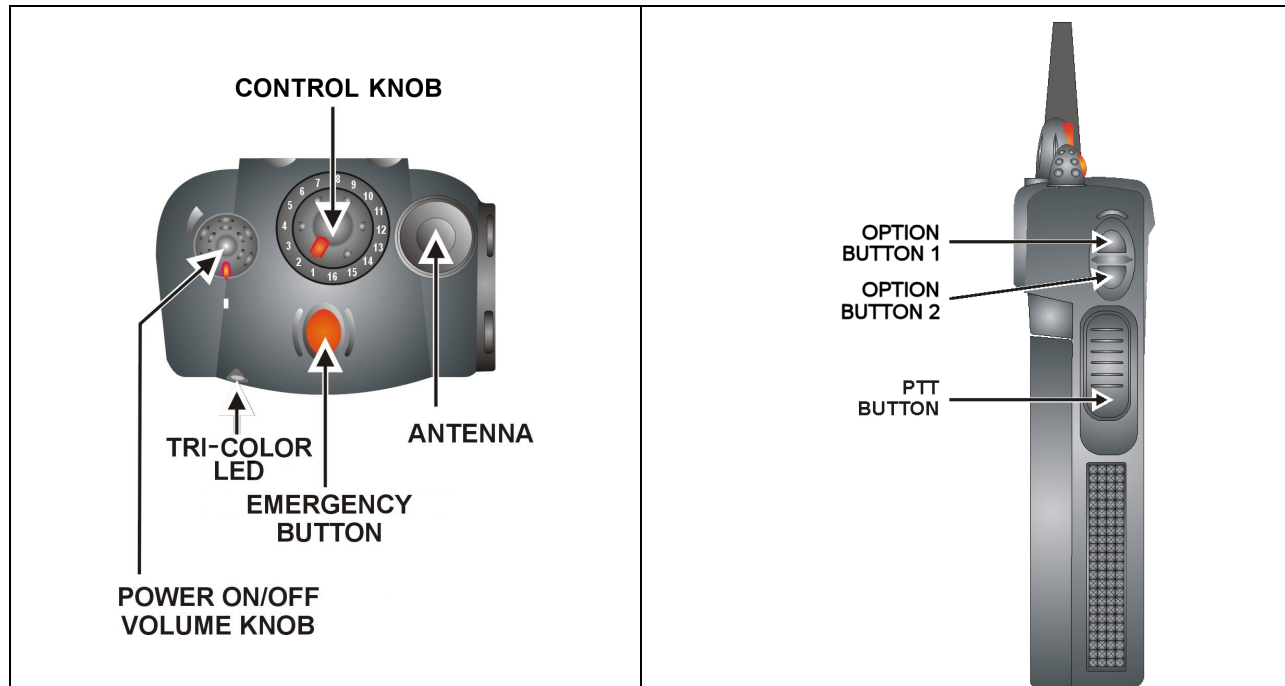

Figure 11-1: Top and Side View
The radio features two rotary control knobs and an emergency button mounted on the top of the radio (Figure 11-1). Push-To-Talk and option buttons are mounted on the side (Figure 11-1). The front mounted keypad of the P7270 System model has 15 buttons and the P5250 and P7250 Scan models have six buttons. The P7230 Select model does not have a front mounted keypad.
1. Power ON the radio by rotating the Power ON/OFF/Volume knob clockwise. A short alert signal (if enabled through programming) indicates the radio is ready to use. Refer to Figure 11-1 for location of the Power ON/OFF/Volume knob.